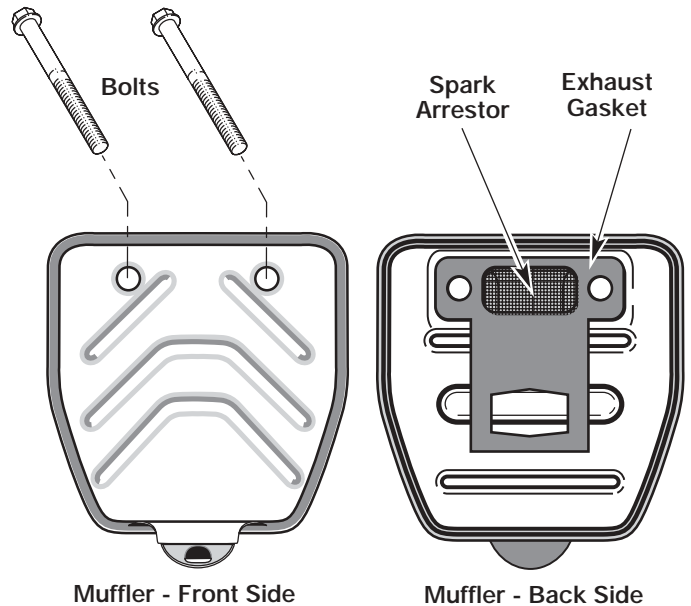

Fig. 25
2. Locate muffler front and the two (2) bolts securing it to the engine (Fig. 25). Remove the two (2) bolts using a flatblade screwdriver or 5/16-inch socket or nut driver. Pull muffler off of the engine.
3. Turn muffler over to the back side and locate the exhaust gasket. Remove the muffler gasket from the muffler (Fig. 25).
7. Place the exhaust gasket against muffler's back side. Align the gasket bolt holes with the bolt holes in the muffler. While holding exhaust gasket in place, insert the bolts into the muffler's front side (Fig. 25).